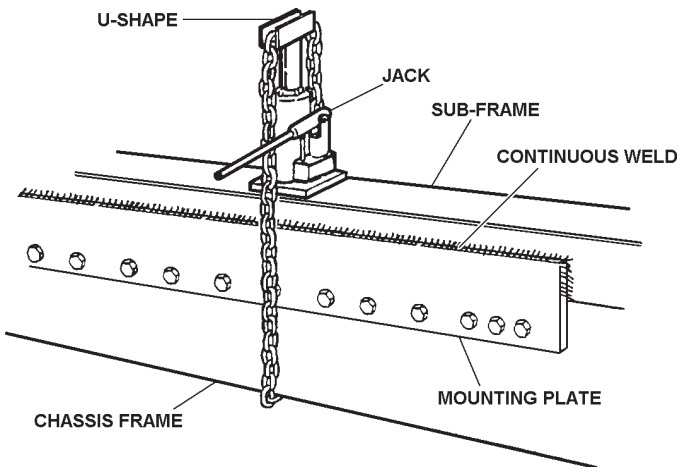

FIGURE 7.6
2. Place the jack on top of sub-frame at the center of the mounting plate and secure in place with a chain that completely encircles the sub-frame and chassis frame. Fasten securely. See Figure 7.6. Extend jack until the wrecker sub-frame rests completely on the chassis frame. Weld the wrecker sub-frame to the mounting plate with a continuous weld. Repeat this procedure on the opposite side of chassis. NOTE: If the chassis width is wider than the wrecker sub-frame, shims may be added between the mounting plates and sub-frame. Add symmetrically to both sides.